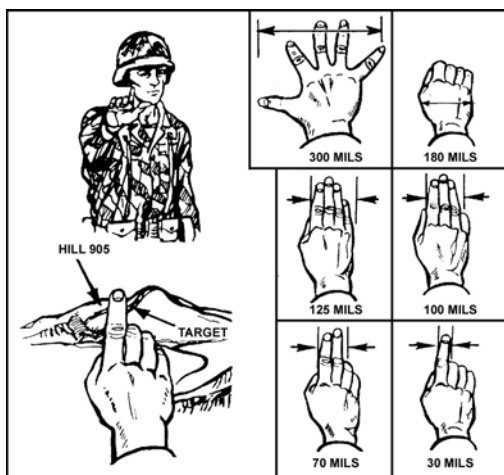

Figure 1. Finger-Hand Mil Relation
1. Under certain conditions, such as communications failure, lack of equipment, and so on, it may be impossible to use an FDC. In fire without an FDC, the FO/squad leader makes corrections differently than when operating with an FDC. He makes all his deviation corrections with respect to the gun-target (G-T) line, rather than with respect to the observer target (OT) line. All deviation corrections are sent in mils or turns of the traversing handwheel.
- c. Since the FO/squad leader has no binoculars, he must use the finger-hand method to determine how many mils a round is to the left or right of the target to make the required corrections (Figure 1).